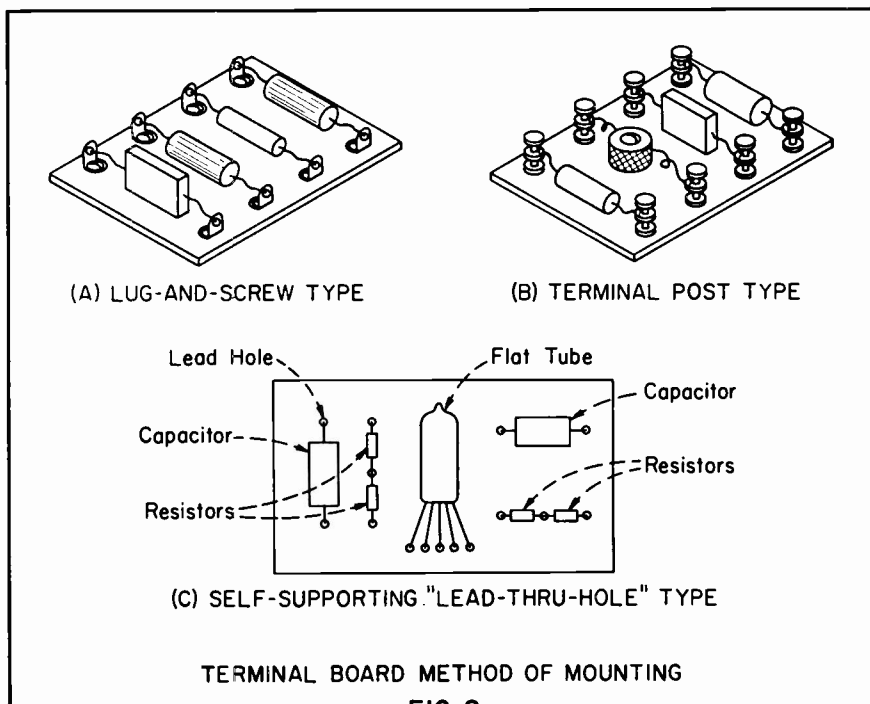

FIG. 2
Figure 2 shows three representative types of terminal boards which can be made easily by the experimenter. Each uses a thin sheet of bakelite or fiber as the board. The first unit (Figure 2A) employs ordinary soldering lugs for terminals, and these are held in place by short machine screws and nuts. The lugs also could be rivetted in place, but most experimenters do not have the tools or machines to do this job.
Figure 2(B) shows a board made up with the popular turret-type pin terminals of the CTC (Cambridge Thermionic) and USES (United States Engineering) types. Advantages of
The board shown in Figure 2(C) eliminates all lugs, pins, and other terminals, substituting pin-holes through which the pigtail leads of the components are passed and drawn tightly. On the other side of the board, the leads may be interconnected, as required by the circuit, or attached to those of other components. This type of construction provides mechanical support for the components, as well as permitting a direct and easy method of wiring the circuit. Elimination of the protruding terminals usually found on a terminal board further reduces the space and weight totals of the assembly. Using the "pin-hole" terminal board, it is possible to build an entire unit of equipment (including several stages) using only the pigtails of components for mounting and wiring. It is possible at the same time to obtain a tight construction. Single-end-mounted components, such as subminiature tubes, may be tied down by means of strap-clamps or clips.